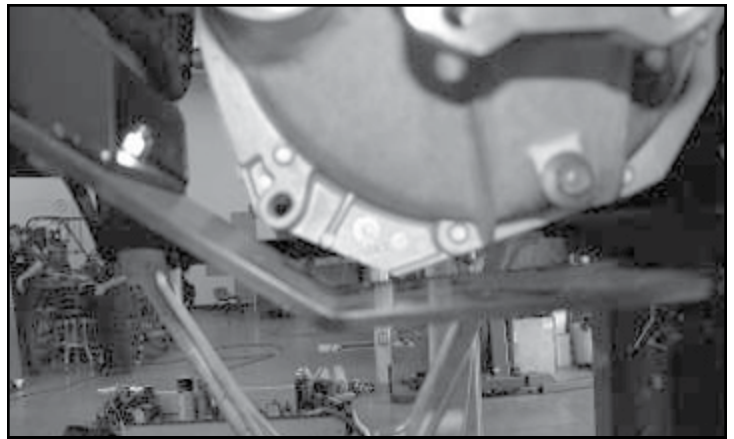

FIGURE 30 - STEP 26
26. Locate FT20304 Skid Plate and the supplied 1/2" x 1-1/4" hardware and attach the rear of the skid plate to the bottom of the rear crossmember. Use the supplied 7/16" x 1 1/4" hardware and attach the front of the skid plate to the front crossmember (**MAKE SURE THAT THE DIFF IS CLEARANCED ENOUGH TO CLEAR THE SKID PLATE**). **SEE FIGURE 30**